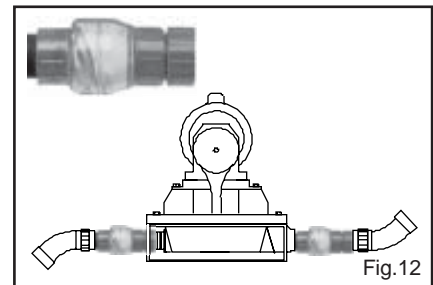

Fig.12
- **FLAPPER CHECK VALVES AND SOLIDS** - Solid matter can get trapped under the check valves, especially when the pump is used in an intermittent application such as sewage or sump pump out. This will prevent self priming at the next use. Flushing with water will generally clear out the solid matter. Installing secondary clear flapper check valves right at the inlet and discharge will improve the dry suction start performance of the pump and make clearing the valves easy. Order Edson Clear Check Valves 269CL-150 for 1 1/2". Fig.12